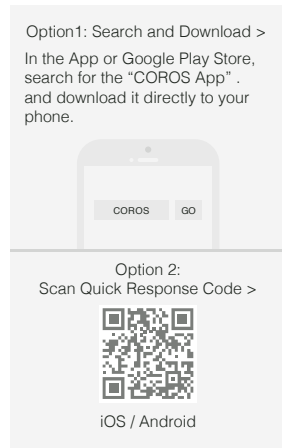

Fig. 9.
3. Download the COROS App. (see Fig. 9).